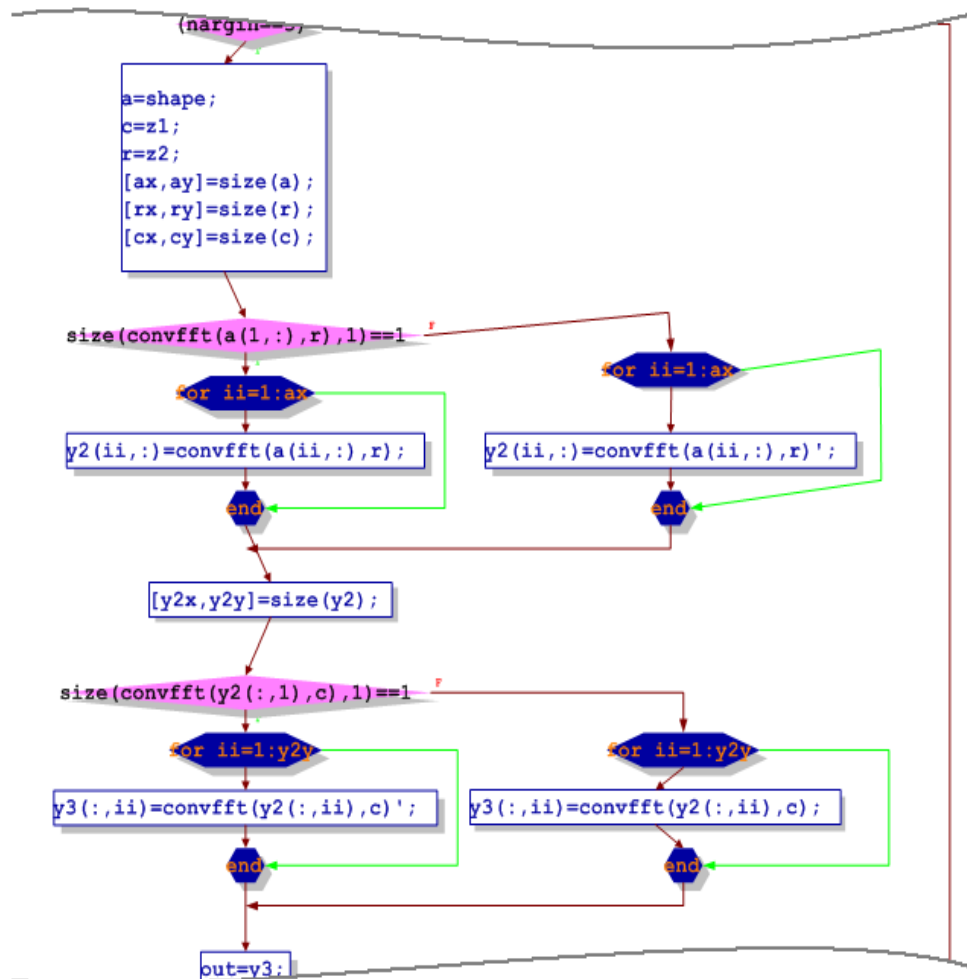

Fig. 4 An example of displaced object in
- d) The “Reader” for Microsoft Visio may require an additional input: “Do you want to glue lines to shape? “. If the answer is “yes”, then the resulting flowchart “glue” the connecting lines to the shape objects. In this “Glue Mode”, if, for any reason, one of the objects in the flowchart is displaced, the neighboring objects connecting to this object are also affected. (Fig 4)